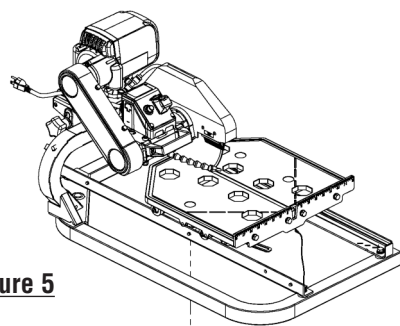

Figure 5
4. Replace the saw back into the water tray. *Figure 5*